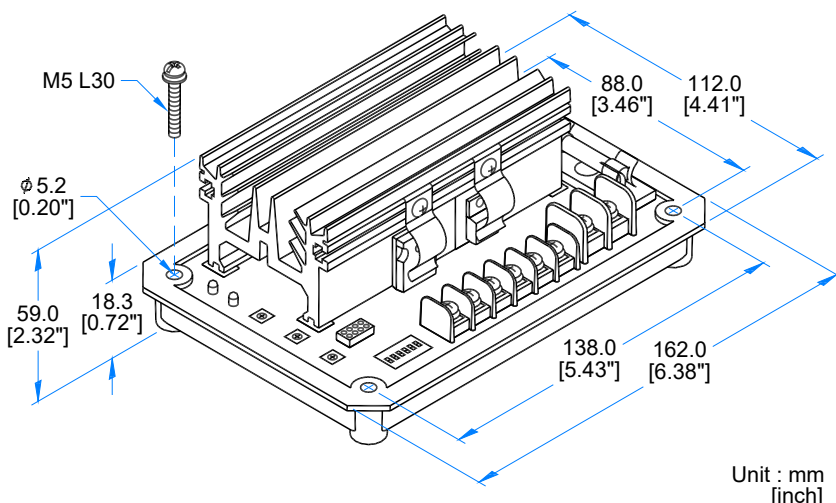

Figure 1 Outline Drawing
1. AVR can be mounted directly onto the engine, genset or any position that will not affect operation. Please see Figure 1 for dimension.